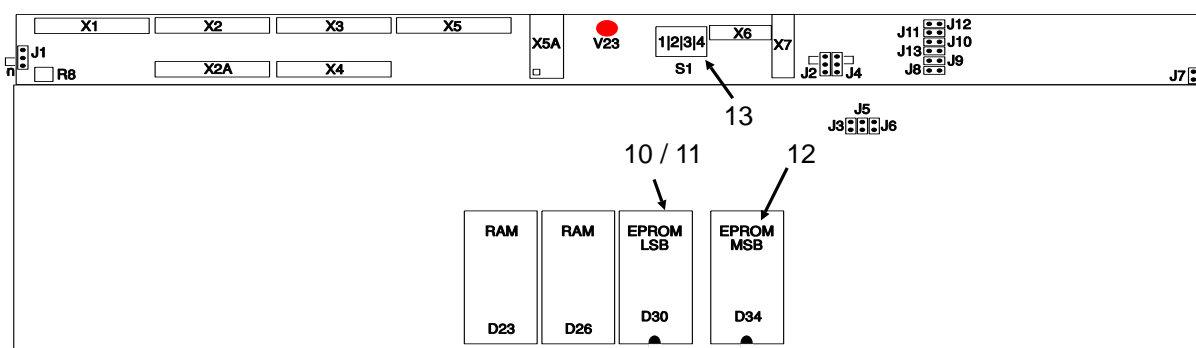

Fig.2
10. Locate the LSB/EVN PROM on PCB 717 (fig.2) and carefully lift it out of its socket using a small screwdriver.